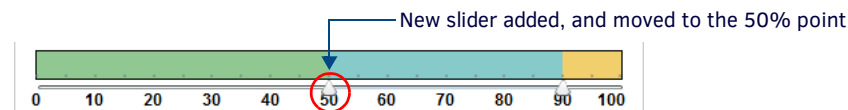

FIG. 426 Edit Bar Graph dialog - new region (0-50% in green)
- b. Move the new slider to a point in the Bar Graph to define a new range (which will be represented by another color). FIG. 426 shows that a new slider has been added, and moved to the 50% point: